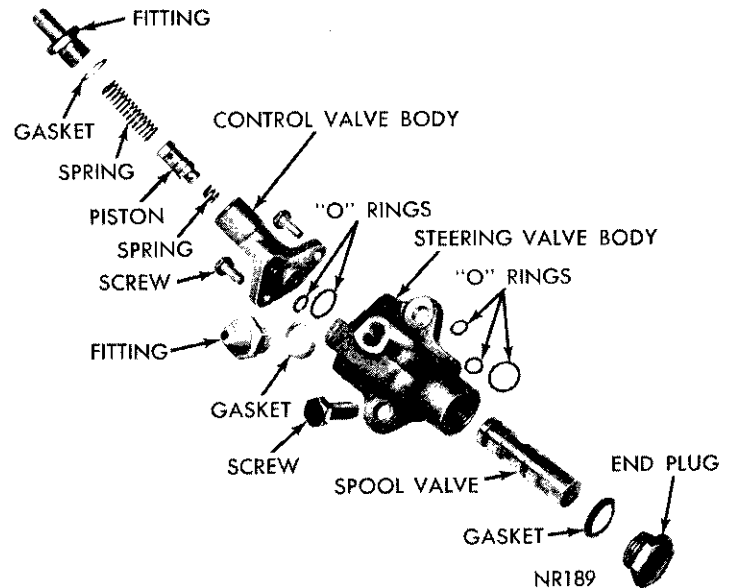

Fig. 3—Valve Body (Disassembled View)
body to steering valve body and separate two bodies (Fig. 3).
(6) Carefully shake out spool valve and inspect for nicks, burrs and scores. Do not remove valve body end plug unless inspection indicates a leak at gasket. **If spool valve or valve body is damaged, replace valve and body assembly.** Small burrs and nicks may be removed with crocus cloth if extreme care is used not to round off sharp edges of valve. The sharp edge is vitally important to operation of this valve.
(7) Clean valve bodies and valve piston thoroughly in clean solvent. Blow out all passages with compressed air. Lubricate pistons and bores with power steering fluid.
(8) Install steering spool valve in valve body so valve lever hole is aligned with lever opening in valve body. Valve must be perfectly free in valve body without sticking or binding (Fig. 3).
(9) Install a new gasket on end plug (if removed). Tighten plug to 25 foot-pounds.
(10) Install piston cushion spring in control valve body being sure it seats in counterbore at bottom of housing. Lubricate piston and insert nose end of pis-